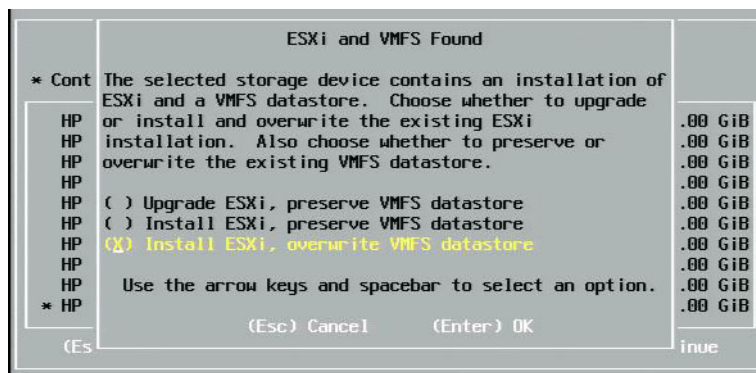

Figure 14-23. ESXi and VMFS Found
5. On the ESXi and VMFS Found window (Figure 14-23), select the installation method.